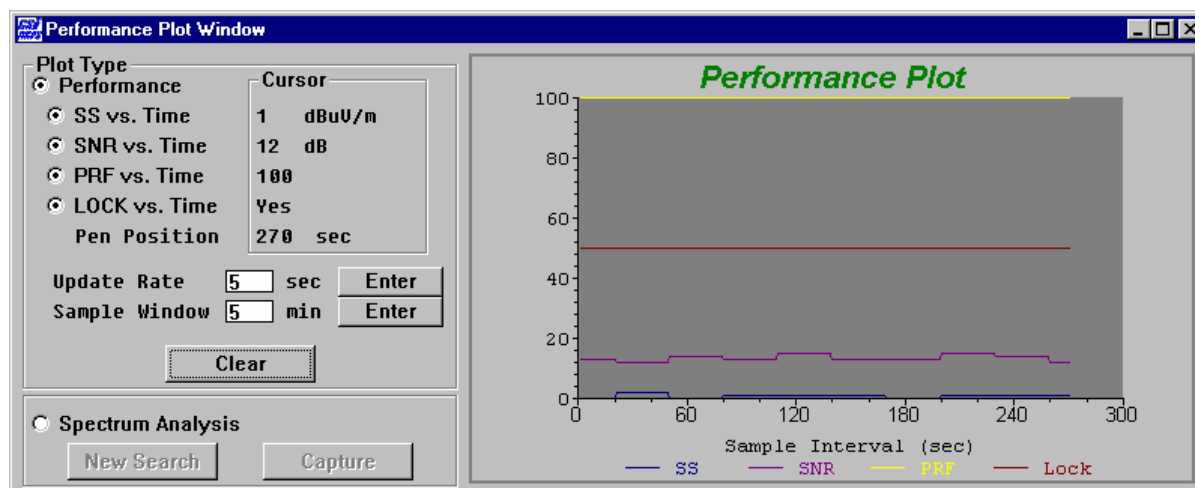

Figure 90 The Performance Plot window
4. To check if the IALA Beacon receiver is locked on a station, i. e. is receiving data, select **File|Performance Plots**. Select the parameters as in Figure 90.